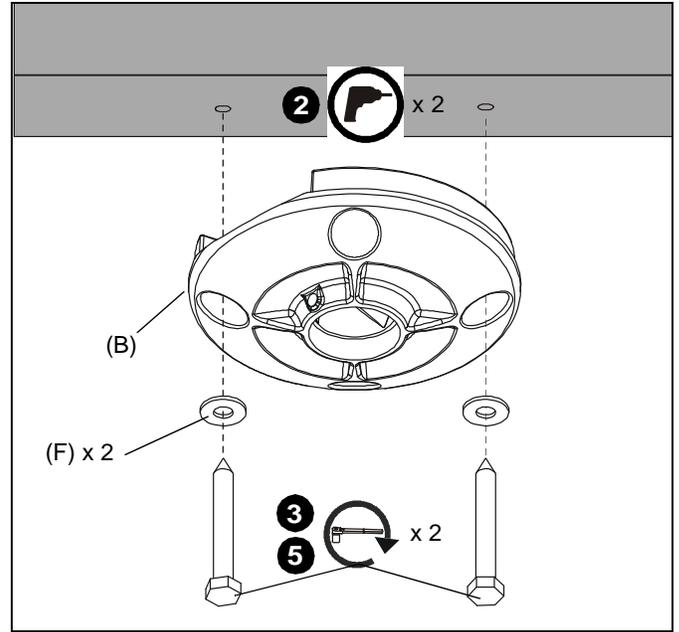

Figure 2
2. Drill 1/4" diameter pilot holes into wood joist. (See Figure 2) Ensure pilot holes are straight.
3. Using 9/16" socket wrench, loosely install two (minimum) Grade 2 (not included) 3/8" x 2-1/2" lag screws through 3/8" washers (F), ceiling plate (B), into wood joist (See Figure 2). Do not tighten plate (B) against ceiling at this time to accommodate cable installation.
5. Tighten lag screws. (See Figure 2)